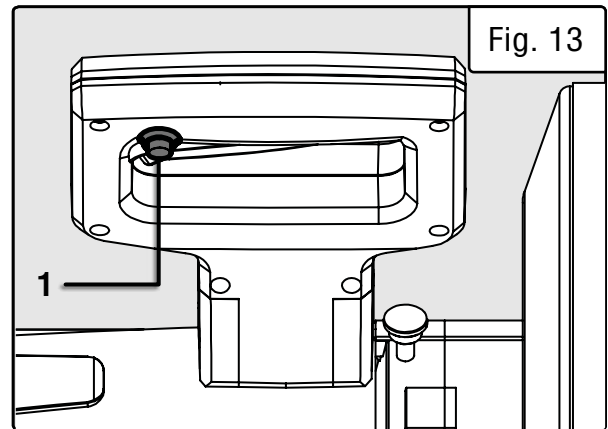
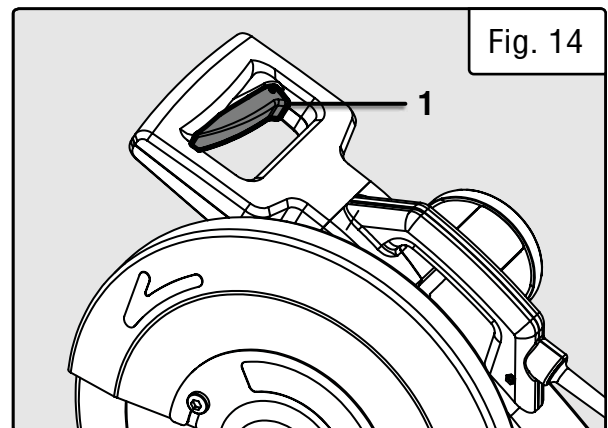

Fig. 13
Fig. 14
1. Plug in the chop saw. Grip the operating handle firmly, press the blade trigger lock button (Fig. 13 - 1) with your thumb, and squeeze the power trigger (Fig. 14 - 1) to turn the saw ON.
1. To access the carbon brushes, remove the carbon brush cap (Fig. 14 - 1) with a flat-head screwdriver (not included).